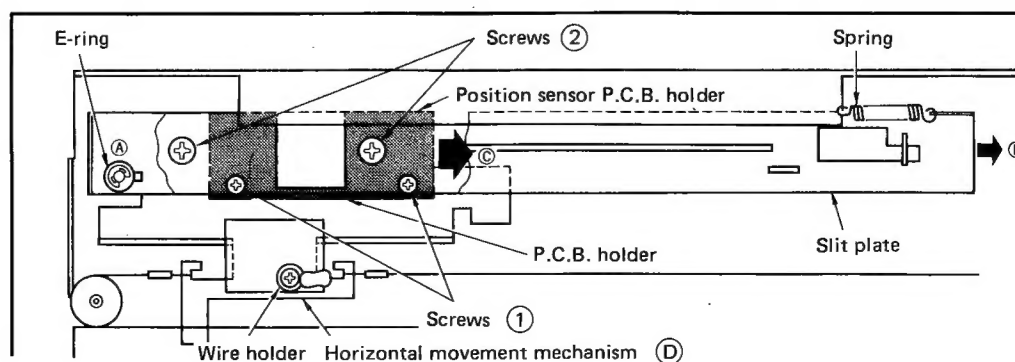

Fig. 2
- 1) Detach the E-ring and coil spring. Remove the slit plate by lifting point (A) slightly upwards and shifting the plate in the direction of arrow (B) (Shown in Fig. 2).
- 3) Remove the two screws (1) securing the light receiving P.C.B. that functions to sense the tonearm position. Take off the P.C.B. holder, moving it in the direction of arrow (C).
- 6) After removing the two screws (2), the tonearm ass'y can be removed by moving it upwards.